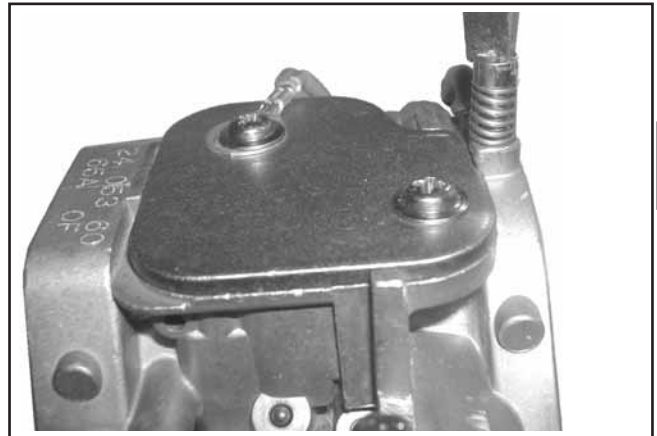

Figure 5-26. Installing Idle Fuel Adjusting Screw and Spring.
17. Place the longer new spring onto the idle fuel adjusting screw and install it into the carburetor. As an initial adjustment, set to 1 turn out from lightly seated. See Figure 5-26.